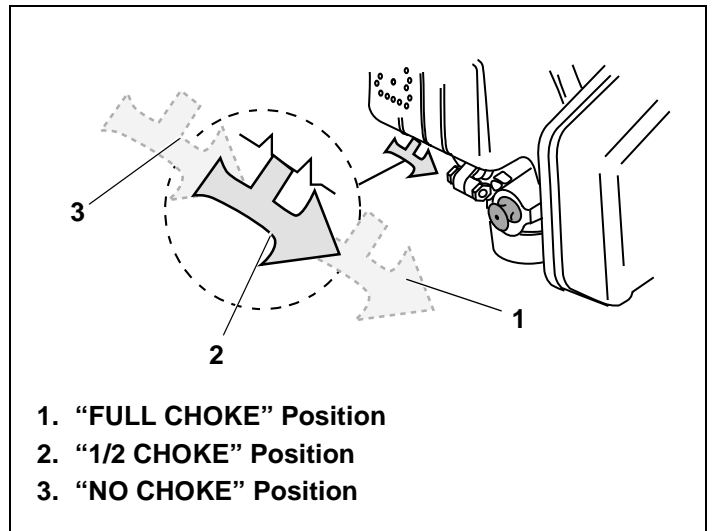

Figure 19. Engine Choke Positions
2. Move engine choke lever to "FULL CHOKE" position. See Figure 19.
If restarting a warm engine after a short shutdown, move choke lever to "NO CHOKE" position. See Figure 19.
- a. Momentarily move choke lever to "1/2 CHOKE" position until engine runs smoothly. See Figure 19.